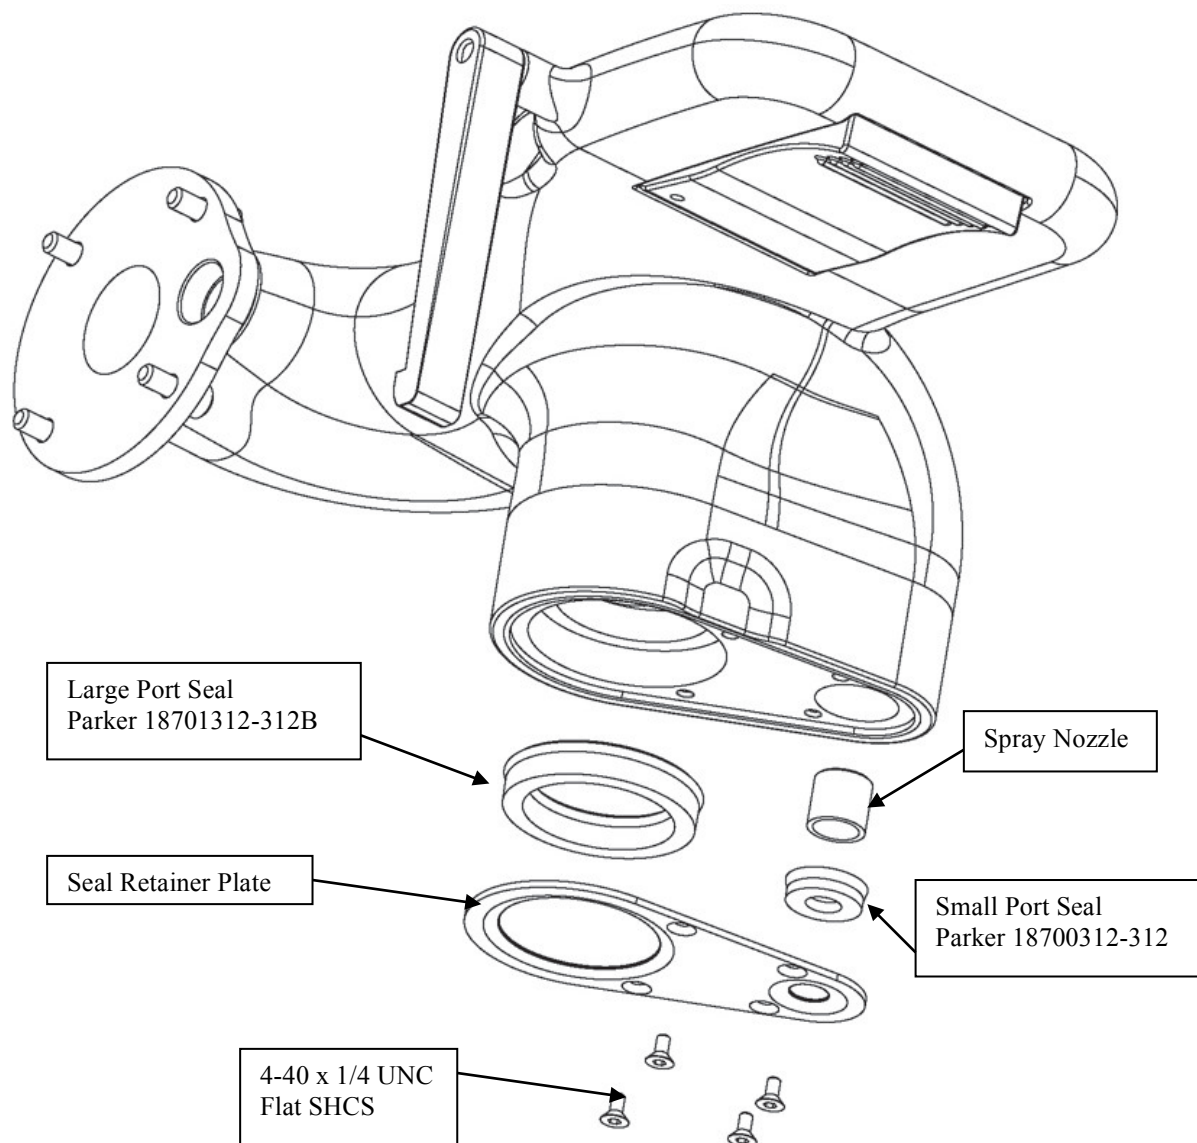

Figure 26: Exploded View of Seals In Quick-Drain HF Drainhead
3. Before inserting new seals, be sure to coat the seal with a thin layer of lithium grease and confirm the seal orientation as shown in Figure 26.